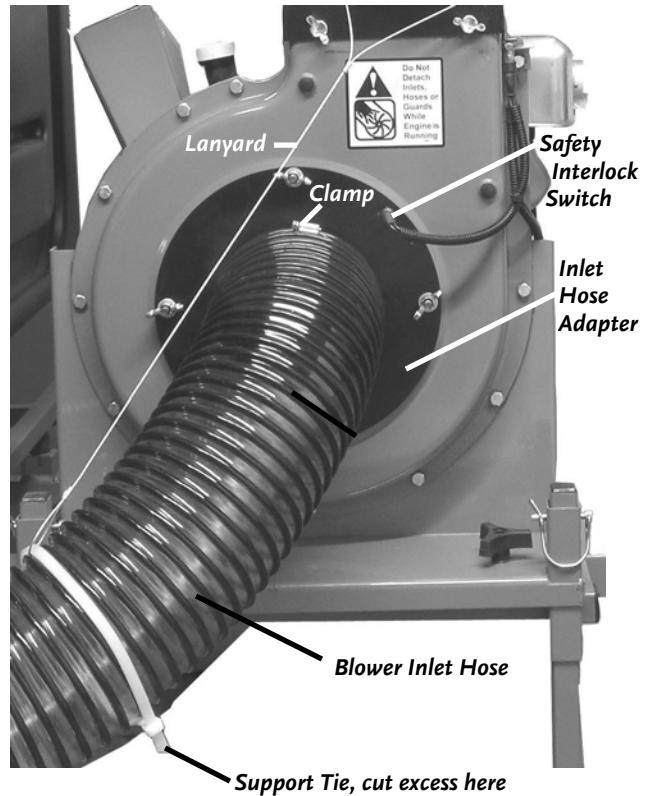

Figure 44
1. Cut the support tie around the Blower Inlet Hose (**Figure 44**).
2. Loosen the clamp retaining the Inlet Hose at the Inlet Hose Adapter and the connector fitting at the opposite end of the hose. Then slip the hose off the adapter and fitting (**Figure 44**).
5. Install a new Support Tie, through the Lanyard and around the Inlet Hose about half way along the hose. Cut off excess Support Tie (**Figure 44**).
<p>The engine won't start manually.</p> <p>(Please refer to the engine owner's manual for engine-specific procedures.)</p>	<ul style="list-style-type: none"> ⇒ Check that the spark plug wire is attached. ⇒ Check the oil and gas level. See page 26. ⇒ Are you using fresh, clean gas? If the gas is old, change it. Use a fuel stabilizer if you keep gas longer than one month. ⇒ Check the throttle adjustment and travel. See page 27. ⇒ Is the spark plug clean? If the spark plug is dirty or cracked, change it. If it's oily, leave it out, hold a rag over the plug hole and pull the recoil cord several times to blow out any oil in the cylinder, then wipe off the plug and reinsert it. ⇒ Check that the Safety Interlock Switch is depressed. See page 18 Figure 14 and page 41 Figure 44. ⇒ If your engine still won't start, call 1(800) DR-OWNER (376-9637) for assistance.